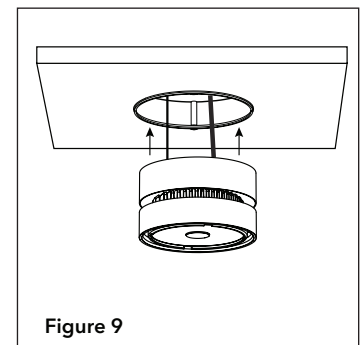
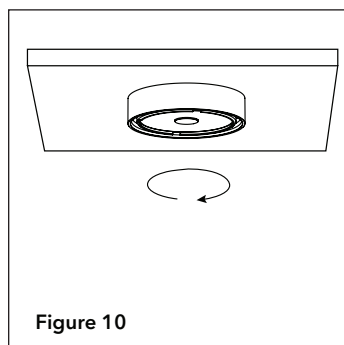

Figure 9
Figure 10
Step 9. Insert luminaire into mud ring opening (Fig. 9). Turn luminaire clockwise (Fig. 10) until you hear a distinct click indicating that tabs are locked into position as shown in Fig. 11.